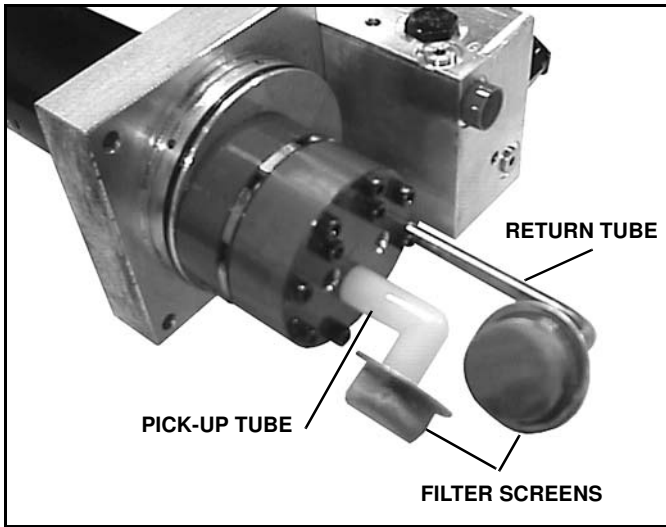

Figure 1-44
8. Loosen the clamp securing the oil reservoir to the pump assembly and remove the oil reservoir being careful not to damage the filter screen while removing the oil reservoir. (See Figure 1-44).